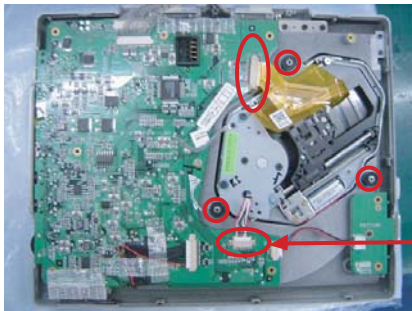

Fig.4
3. Remove DVD driver and main board as Fig.4,5